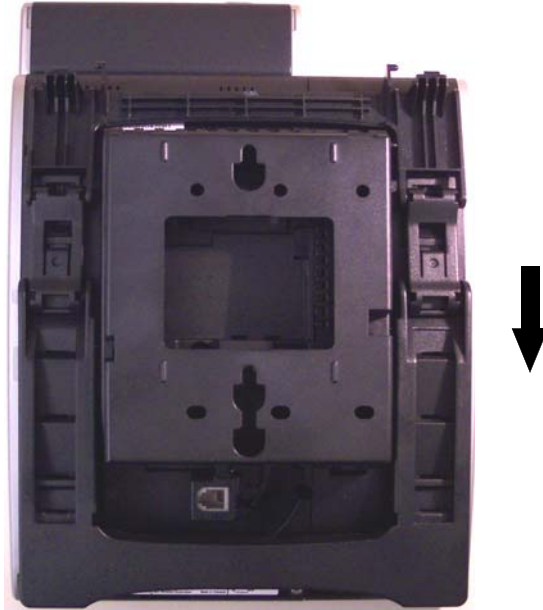

Figure 5-114 WM-L UNIT Installed
5. Push down on telephone until the WM-L UNIT snaps into place (refer to Figure 5-114 WM-L UNIT Installed).